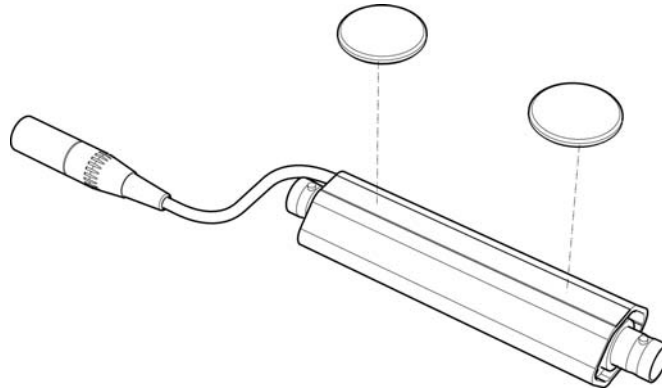

Figure 3.3 *Installing the hook-and-loop fastener disks on a picoLink*
2. Prepare each picoLink as shown in figure 3.3. Peel off the backing tape of two hook-and-loop fastener disks and place them at each end of the underside of the picoLink module. *Since the disks cover part of the label, make sure that you place the disks on the opposite side from the label that identifies the connectors.*